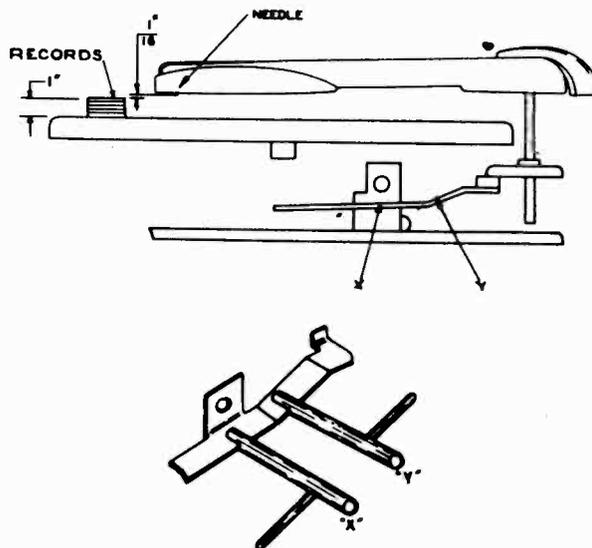

Fig. 4
The vertical movement of the pickup arm is controlled by the angle of the Pickup Arm Raising Lever (40), Fig. 4. The needle should approach the top record of a full stack of 10" records on the turntable with approximately $\frac{1}{8}$ " clearance. To adjust:
3. Be sure the notch in the Pickup Arm raising disc (34) engages the pickup arm raising lever (40).
4. If the needle does not clear the top record or if it raises too high, adjust by bending the pickup arm raising lever at the point indicated in Fig. 4.